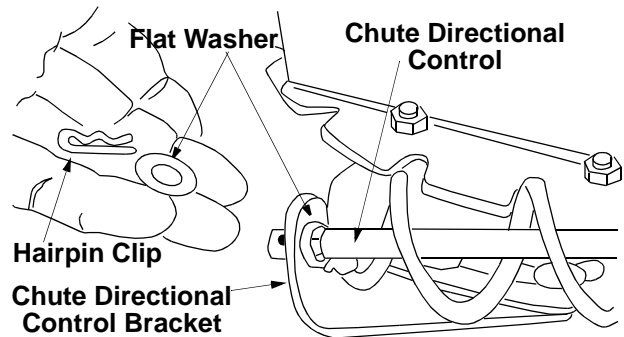

Figure 15
2. Place one flat washer over the end of the chute directional control, then insert the end of the chute directional control into the hole in the plastic bushing in the chute bracket. See Figure 15. Place the second flat washer on the chute directional control, and secure with hairpin clip.
5. Adjust the chute directional control support bracket (see figure 15) so that the spiral on the chute directional control fully engages the teeth on the chute assembly. Tighten the hex nuts on the lower chute directional control bracket securely. Tighten the hex nuts on the eyebolt.